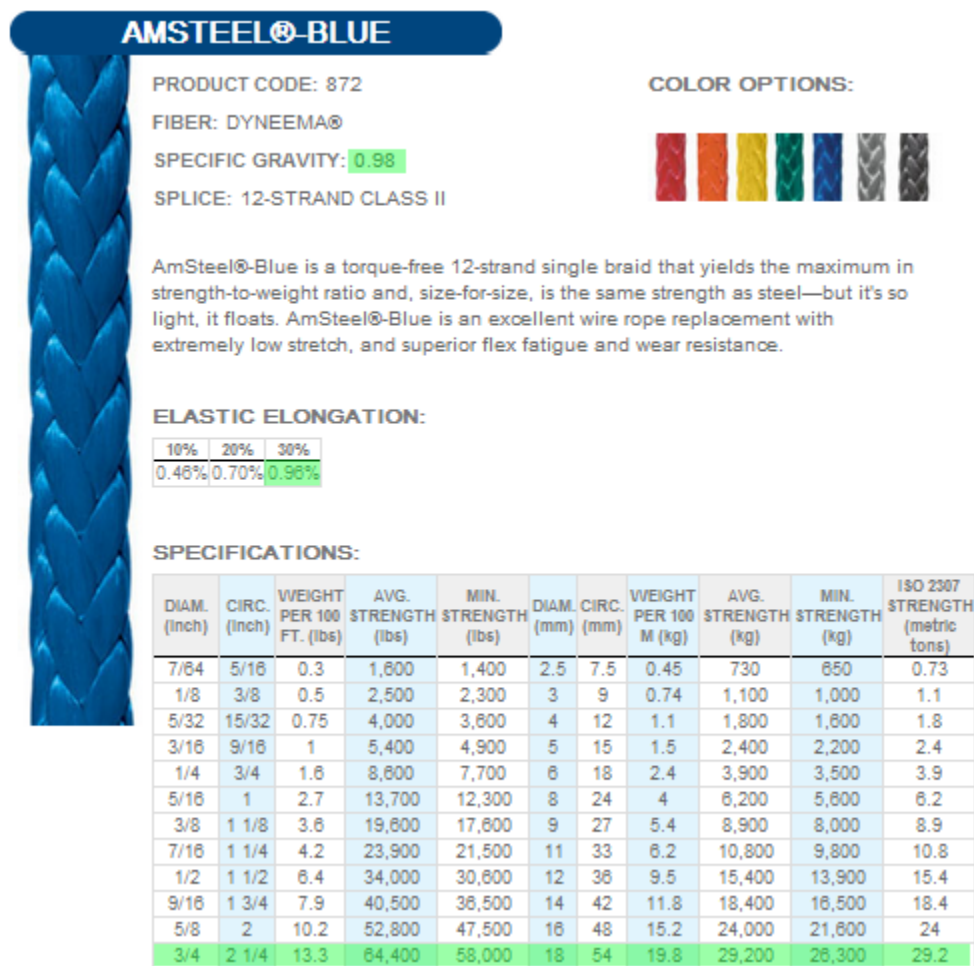

Figure 51: Amsteel-Blue rope properties
- ☞ The following tutorial reviews how to set DCableSegment feature properties for a 3/4 inch Amsteel-Blue rope, the properties of which are given in Figure 51.